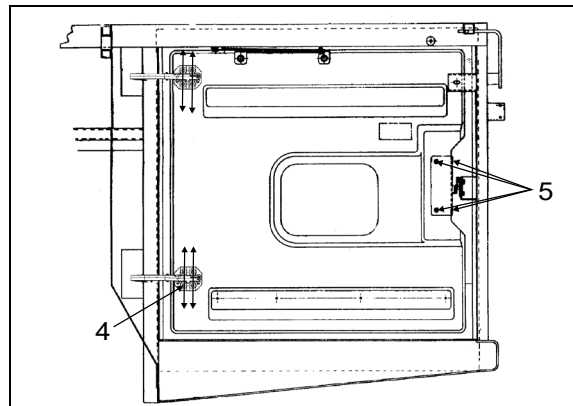

FIGURE 80: PORTE DU COMPARTIMENT MOTEUR^{18633_1}
8. Desserrer les vis (4, Figure 80).